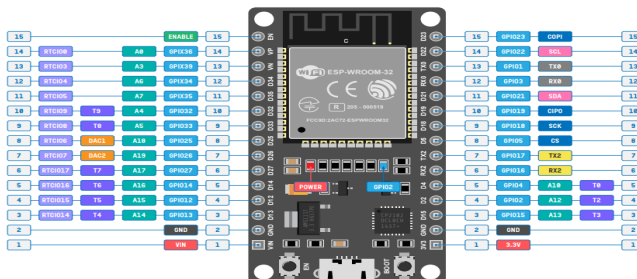

Fig. 2.3: ESP32-Devkit-v1
3. ESP32-devkit-v1: The ESP32-devkit-v1 in Fig 2.3 has some ground pins, ADC(AnalogtoDigitalConverter) input pins D2, D4, D12-D15, D25-D27, D32 and D33 that can be used for both input as well as output. It also has two power pin that can generate 3.3V. In the following exercises, only the GND, 3.3V and digital pins will be used.